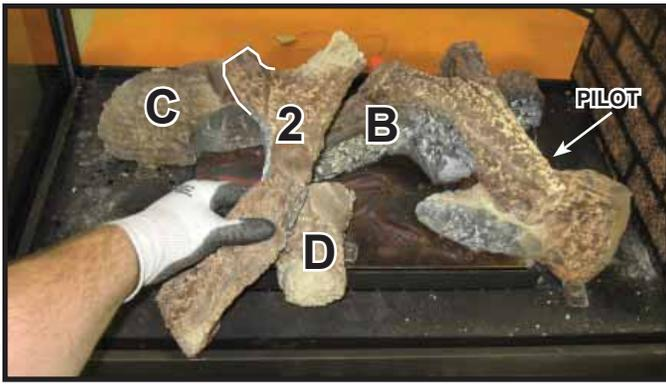
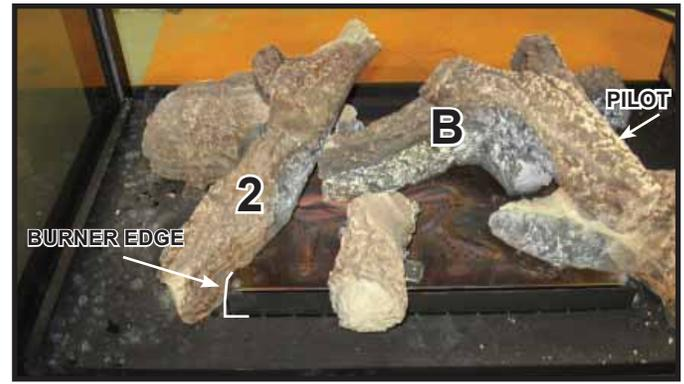

Figure 5. Placement of Log #2
Figure 6. Placement of Log #2
**STEP 2. Log #2 (SRV2129-705):** Locate portion of Log #2 that is highlighted in Figure 5. Place that portion of Log #2 on the indentation on Log C. Log #2 will rest on the tip of Log B. Slide the bottom of Log #2 up to the edge of the burner as shown in Figure 6.